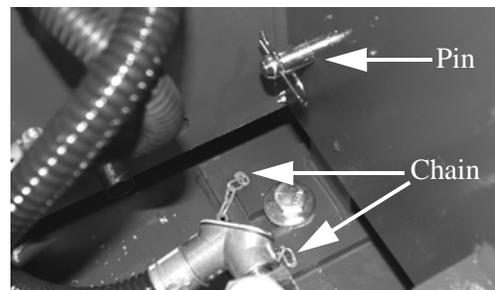

Figure 2-7. Hitch Pin and Chain
4. Remove hitch pin that holds the stand up (see Figure 2-7).
Lift stand up with chain located inside load cell pocket (See Figure 2-7).